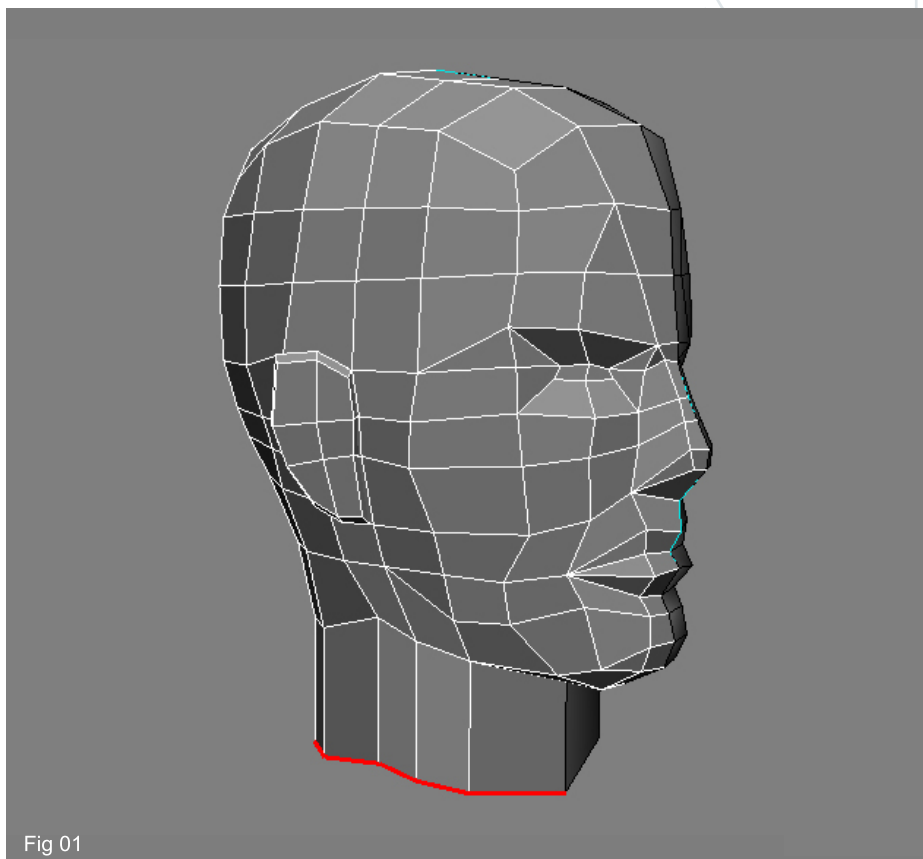

Fig 01
1. If you successfully completed the first part of the tutorial, you should have ended up with the whole head mesh ready. Let's start from this mesh; select the bottom loop of edges (marked in red in Fig01), then use the Ctrl + D shortcut to duplicate/extrude it and move it downwards to create the neck. Don't forget that we can still use the Clone tool to create a perfect clone of half of the head, and work only on that.